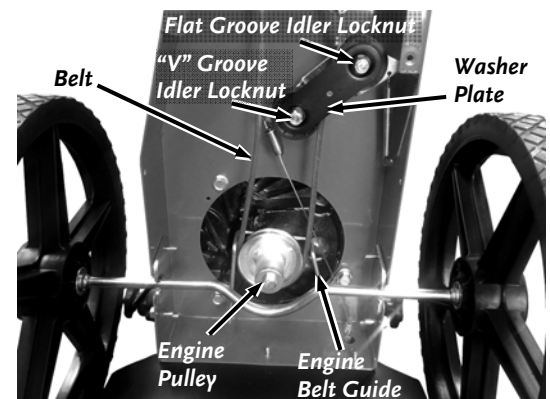

Figure 24
**Note:** You should be able to remove the Belt with the Engine Belt Guide in place, but if not, remove the Engine Belt Guide Bolts using a 9/16" Wrench (**Figure 24**) to remove the Guide.
10. Rotate the Washer Plate onto the Flat Groove Idler Stud and install the Locknut using a 9/16" Wrench (**Figure 24**). Tighten both Idler Locknuts using a 9/16" Wrench.